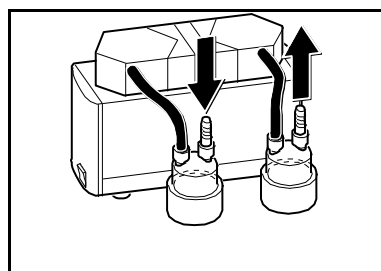

Fig. 14: Tubing system SR
2	Tubes (see fig. 14) <ul style="list-style-type: none"> ▪ Resistant to the medium employed ▪ Inside diameter 10 mm ▪ Length: approx. 150 mm
3. Lay tubes for separators (see fig. 14).